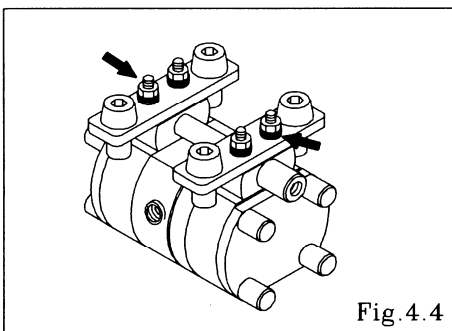

Fig. 4.4
- Turn over the main body assembly. [Fig.4.4]
- Pull out the upright tie rods, and remove the base, O ring (DP-25F, DP-38F) and in manifold. [Fig.4.4]